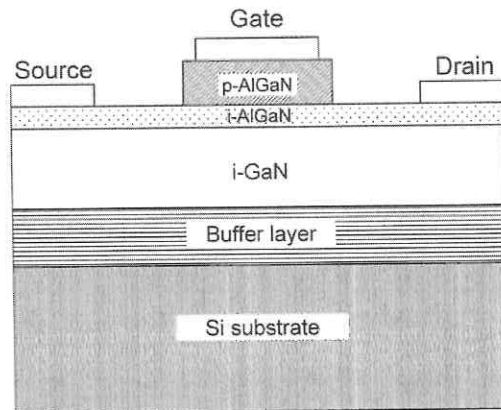

Fig. Q2(f)
- (ii) A predeposition diffusion process is carried out by introducing phosphorus (P) atoms into a *p*-type silicon (Si) wafer having background concentration of 10^{18} atoms·cm⁻³ at 800 °C for 30 minutes. Given that the diffusion coefficient of phosphorus at 800 °C in silicon is 2.6×10^{-17} cm²·s⁻¹ and its solid solubility limit is 2.79×10^{20} atoms·cm⁻³. Determine the junction depth. [4 marks]
- (f) **Fig. Q2(f)** shows the cross-section of a gate injection transistor. This transistor is composed of a *p*-AlGa*N*/i-AlGa*N*/i-Ga*N* heterostructure grown on a Si substrate with buffer layer consisting of the Ga*N*/Al*N* multilayers on top of the AlGa*N*/Al*N* initial layer, and Ti/Al source/drain contacts and Pd gate metal. (*AlGa*N**: aluminum gallium nitride, *Ga*N**: gallium nitride, *Al*N**: aluminum nitride, *Si*: silicon, *Ti*: titanium, *Al*: aluminum, *Pd*: palladium, *i*: insulating) Answer the following:
- (i) Using *schematic illustrations*, create the necessary processing steps to completely fabricate the transistor given in **Fig. Q2(f)** beginning from a Si substrate. [9 marks]